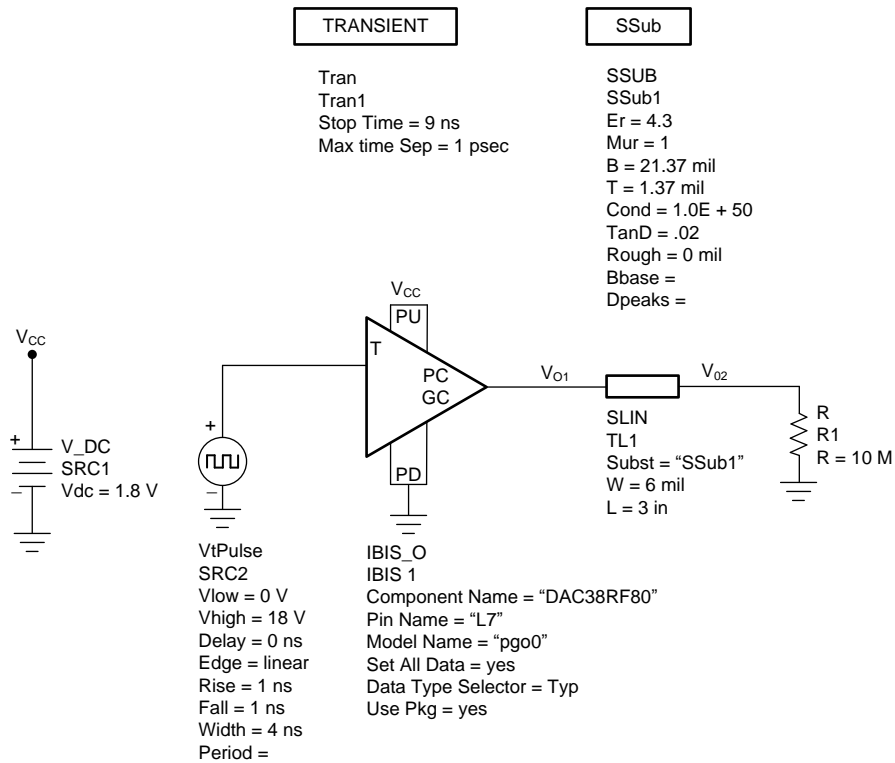

Figure 5. Signal Integrity Simulation Circuit – ADS
22. Click on the Simulation icon. Figure 5 shows the complete circuit.